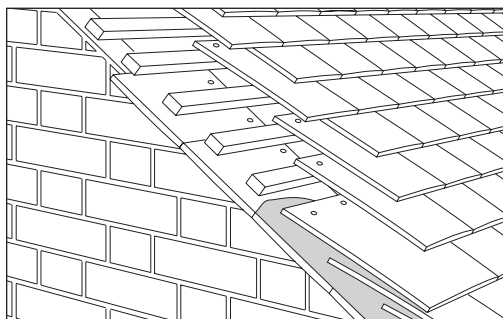

Fig 46– Undercloak using Plain tiles
- Lay face down with tail edge facing outwards (Fig 46).
- Strike off bedding mortar and neatly point in one operation (see Fig 46).